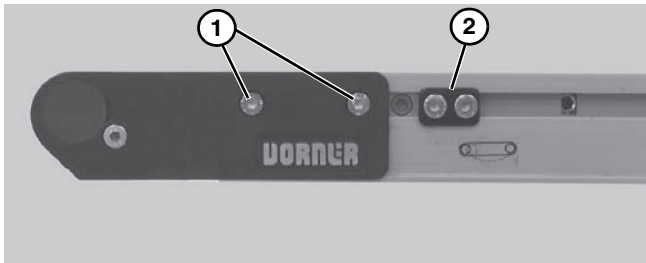

Figure 34
3. After adjusting proper tensioning, tighten fastening screws (**Figure 34, item 1**) on both sides of conveyor to 60 in-lb (7 Nm).
4. If equipped with cam tracking assemblies (**Figure 34, item 2**), position against head plates and adjust belt tracking. Refer to “Conveyor Belt Tracking” on page 16.